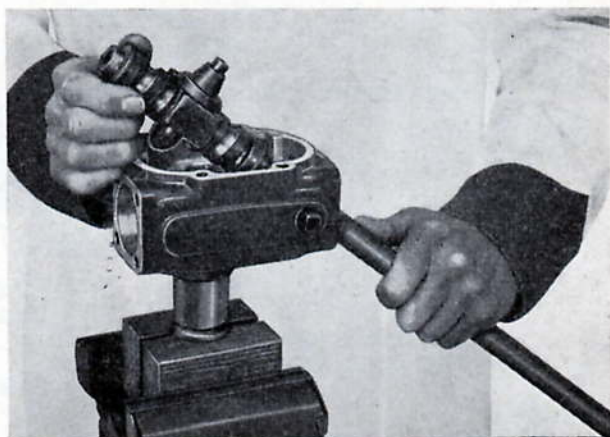

Fig. M.15. Withdrawing the steering shaft from the gear case
8. Withdraw the shaft and worm as shown in Fig. M.15, remove the two inner races from the shaft and unscrew the main nut from the worm.